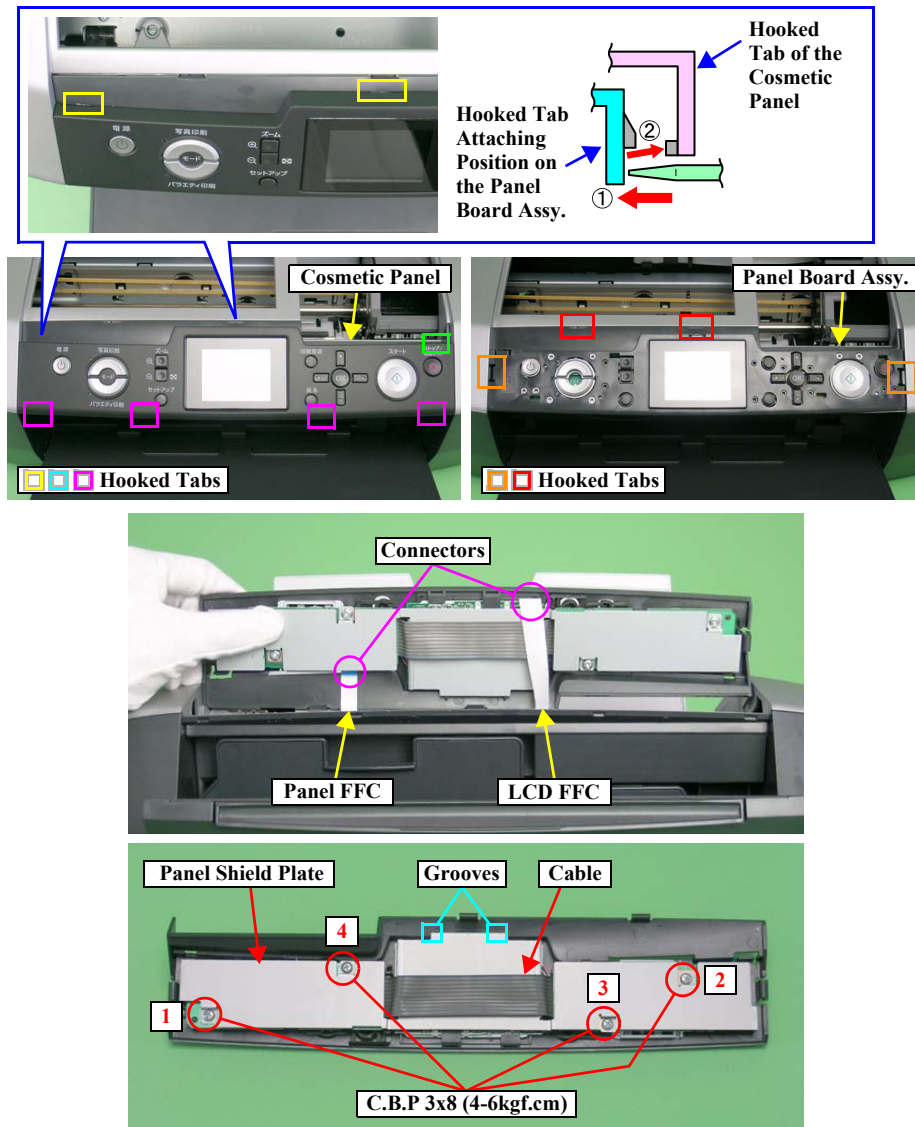

Figure 2-8. Removing the Panel Board/LCD Module (1)
- Tighten the screws to secure the Panel Shield Plate in the order shown in Figure 2-8.
□ Illustration (1)